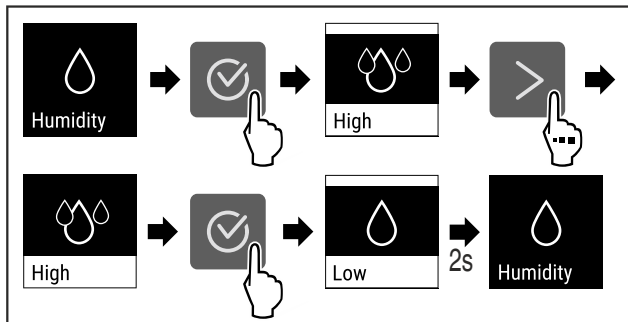

Fig. 95
- ▶ Complete the steps (see Fig. 95).